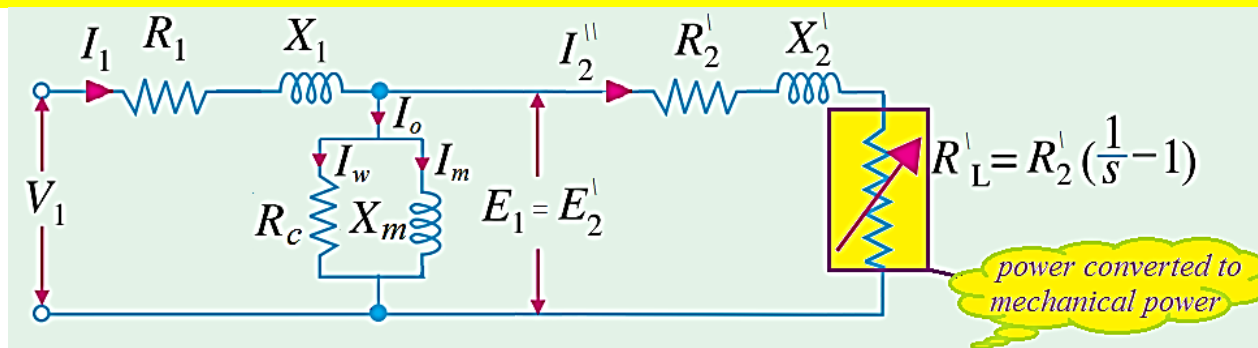

Fig. 3: eqt. circuit of induction motor per phase at any slip referred to stator side
- From Fig. 3 $Z_2' = (R_2' + R_L') + jX_2'$
(Fig. 3 is the same as Fig. 2)